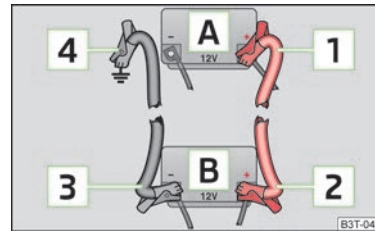

Fig. 161
- Attach one end **1** » Fig. 161 to the positive terminal of the discharged battery **A**.
- Attach one end **3** » Fig. 161 to the negative terminal of the battery supplying the power **B**.